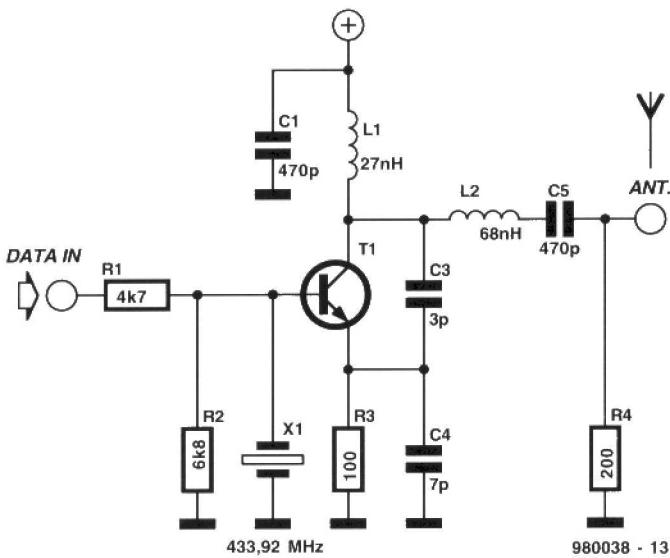

Figure 3. Circuit diagram of an ultra-simple 433-MHz SRD transmitter using amplitude modulation (not type-approved by RA).
The simplest versions of SRDs used to rely on an amplitude-modulated transmitter (**Figure 3**) and an associated regenerative receiver (**Figure 4**). Note that such systems are probably no longer allowed under RA specification MPT 1340. The transmitter consists of a one-transistor oscillator. Modulation is obtained by applying the data signal to the base of the transistor. A single surface-acoustic wave (SAW) resonator is used as the frequency-determining element. A highly similar circuit for experimental use was published in *Elektor Electronics* July/August 1993, page 54. Note, however, that this design is based on frequency modulation (FM) using two varicap diodes, while the SAW has a fine-tuning adjustment.
The range of the simple system shown in Figures 3 and 4 is much smaller than that of more expensive units, mainly because of the low transmit power (approx. 1 mW) and the rel-